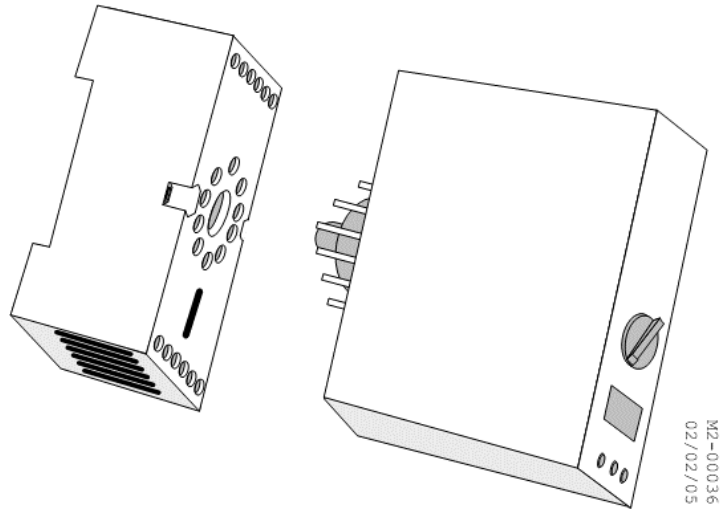

Figure 3-6: 11 Pin Socket for Photo Eye Amplifier
4. Plug the photo eye amplifier into the 11-pin socket. See Figure 3-6.